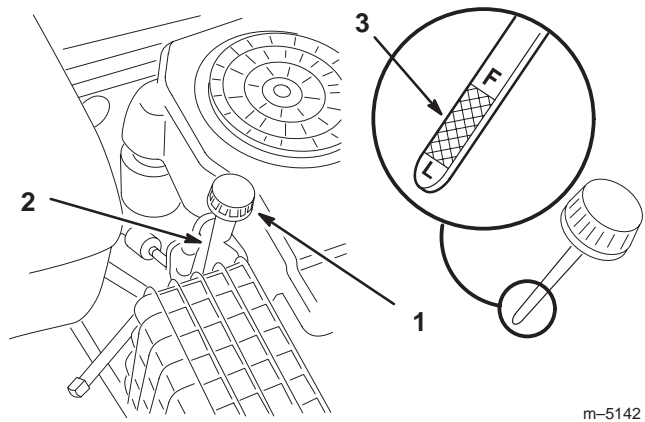

Figure 16
2. Clean around the oil dipstick (Fig. 16) so that dirt cannot fall into the filler hole and damage the engine.
3. Unscrew the oil dipstick and wipe the metal end clean (Fig. 16).
4. Slide the oil dipstick fully into the filler tube, but do not thread it onto the tube (Fig. 16). Pull the dipstick out and look at the metal end. If the oil level is low, slowly pour only enough oil into the filler tube to raise the level to, but not over, the "F" mark on the dipstick.
- Slowly pour approximately 80% of the specified amount of oil, page 22, into the filler tube (Fig. 16). Check the oil level; refer to Checking the Oil Level, page 22. Slowly add additional oil to bring the level to the “F” mark on the dipstick.